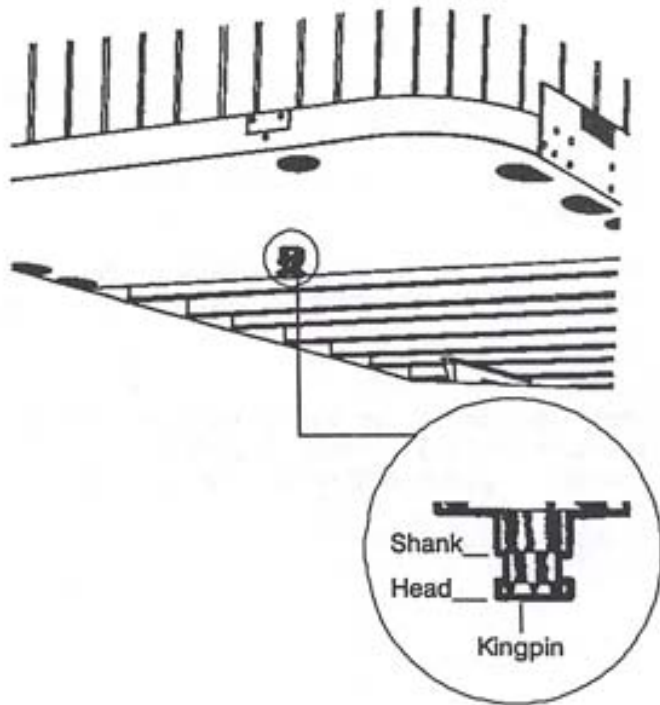

Figure 6-7
- Go under trailer and look into the back of the fifth wheel. Make sure the fifth wheel jaws have closed around the shank of the kingpin (see Figure 6-7).